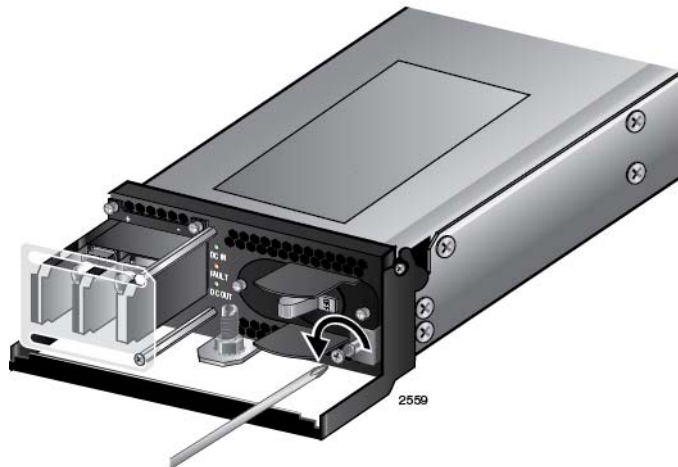

Figure 61. Loosening the Handle locking Screw on the AT-SBxPWRSYS1 DC System Power Supply
5. With a #2 Phillips-head screwdriver, loosen the handle locking screw on the power supply, as shown in Figure 61.